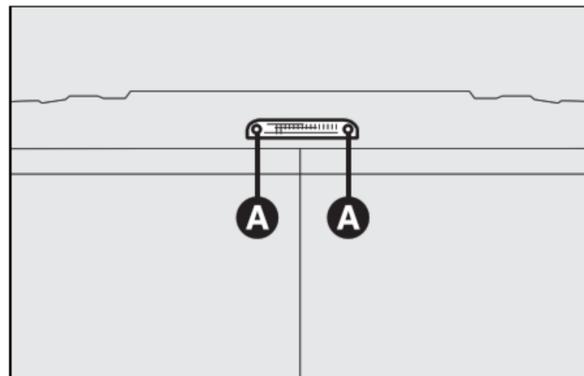

fig. 31
- loosen the two fastening screws **A**-fig. 31;